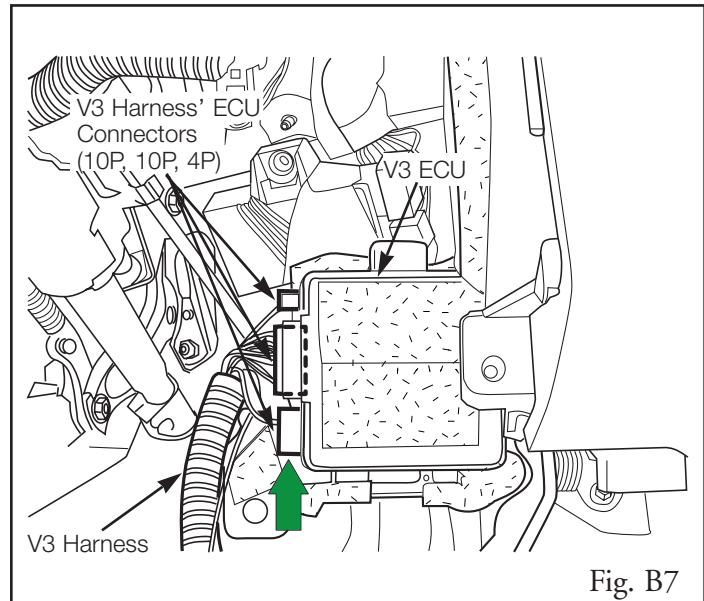

Fig. B7
8. Connect the V3 harness' ECU connectors (10P, 10P, 4P) to the V3 ECU. (Fig. B7)